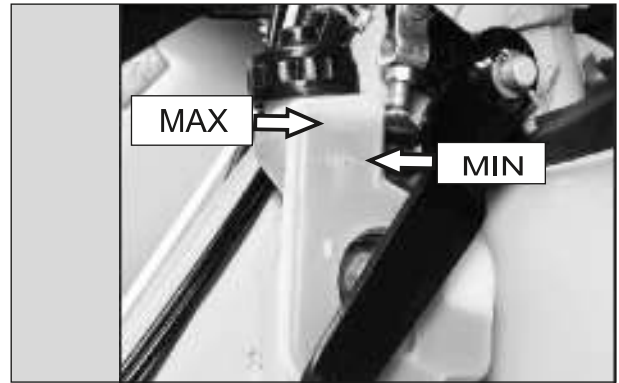

Fig. 2.68
- Check if the brake fluid level is in between the 'MAX' and 'MIN' level. (Fig. 2.68)